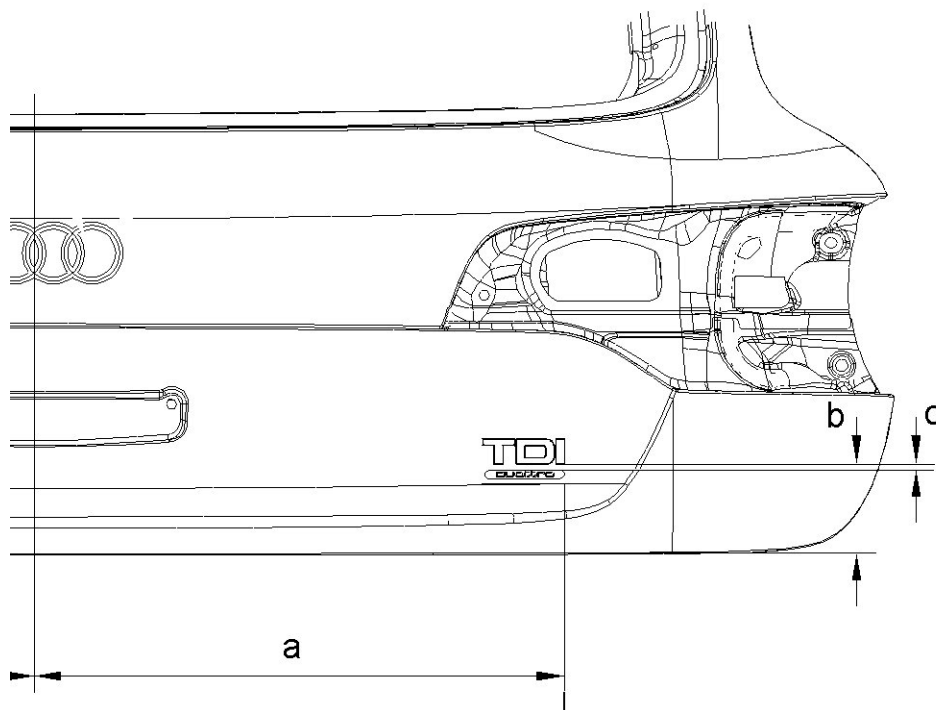

Figure 2.
2. Use the dimensions in Figure 2 to align the emblems.